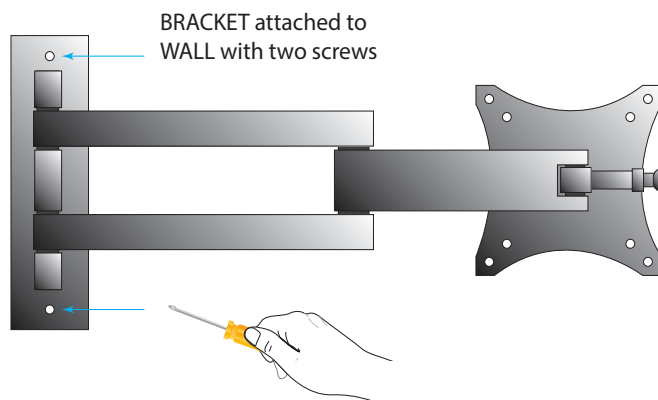

Fig. 3.2
- Mount the bracket to the wall using the required hardware (screws, wall anchors, or toggle bolts if necessary); see Fig. 3.2.